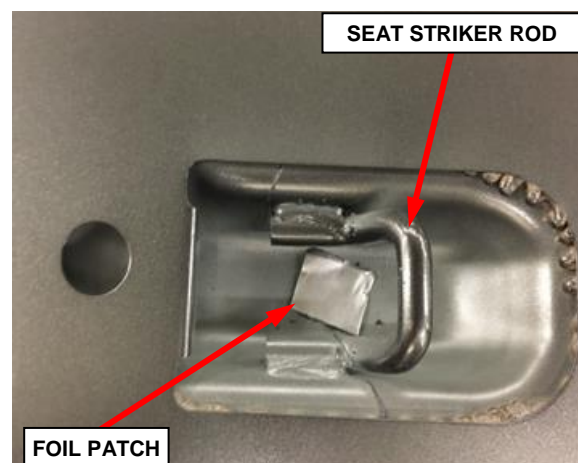

Figure 18 – Foil Patch
2. Remove the foil patch from under the seat striker rod so the striker reinforcement bracket will sit flush. Clean off any residue from the foil patch (Figure 18).